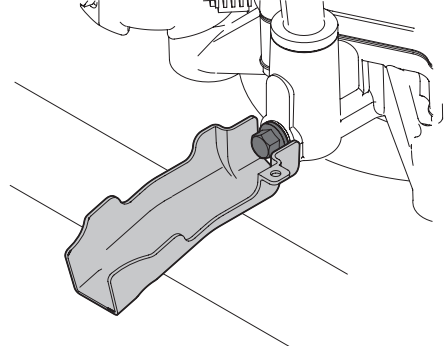

Figure 26
- Snap the small end of the oil drain sleeve onto the oil sump. See Figure 26.